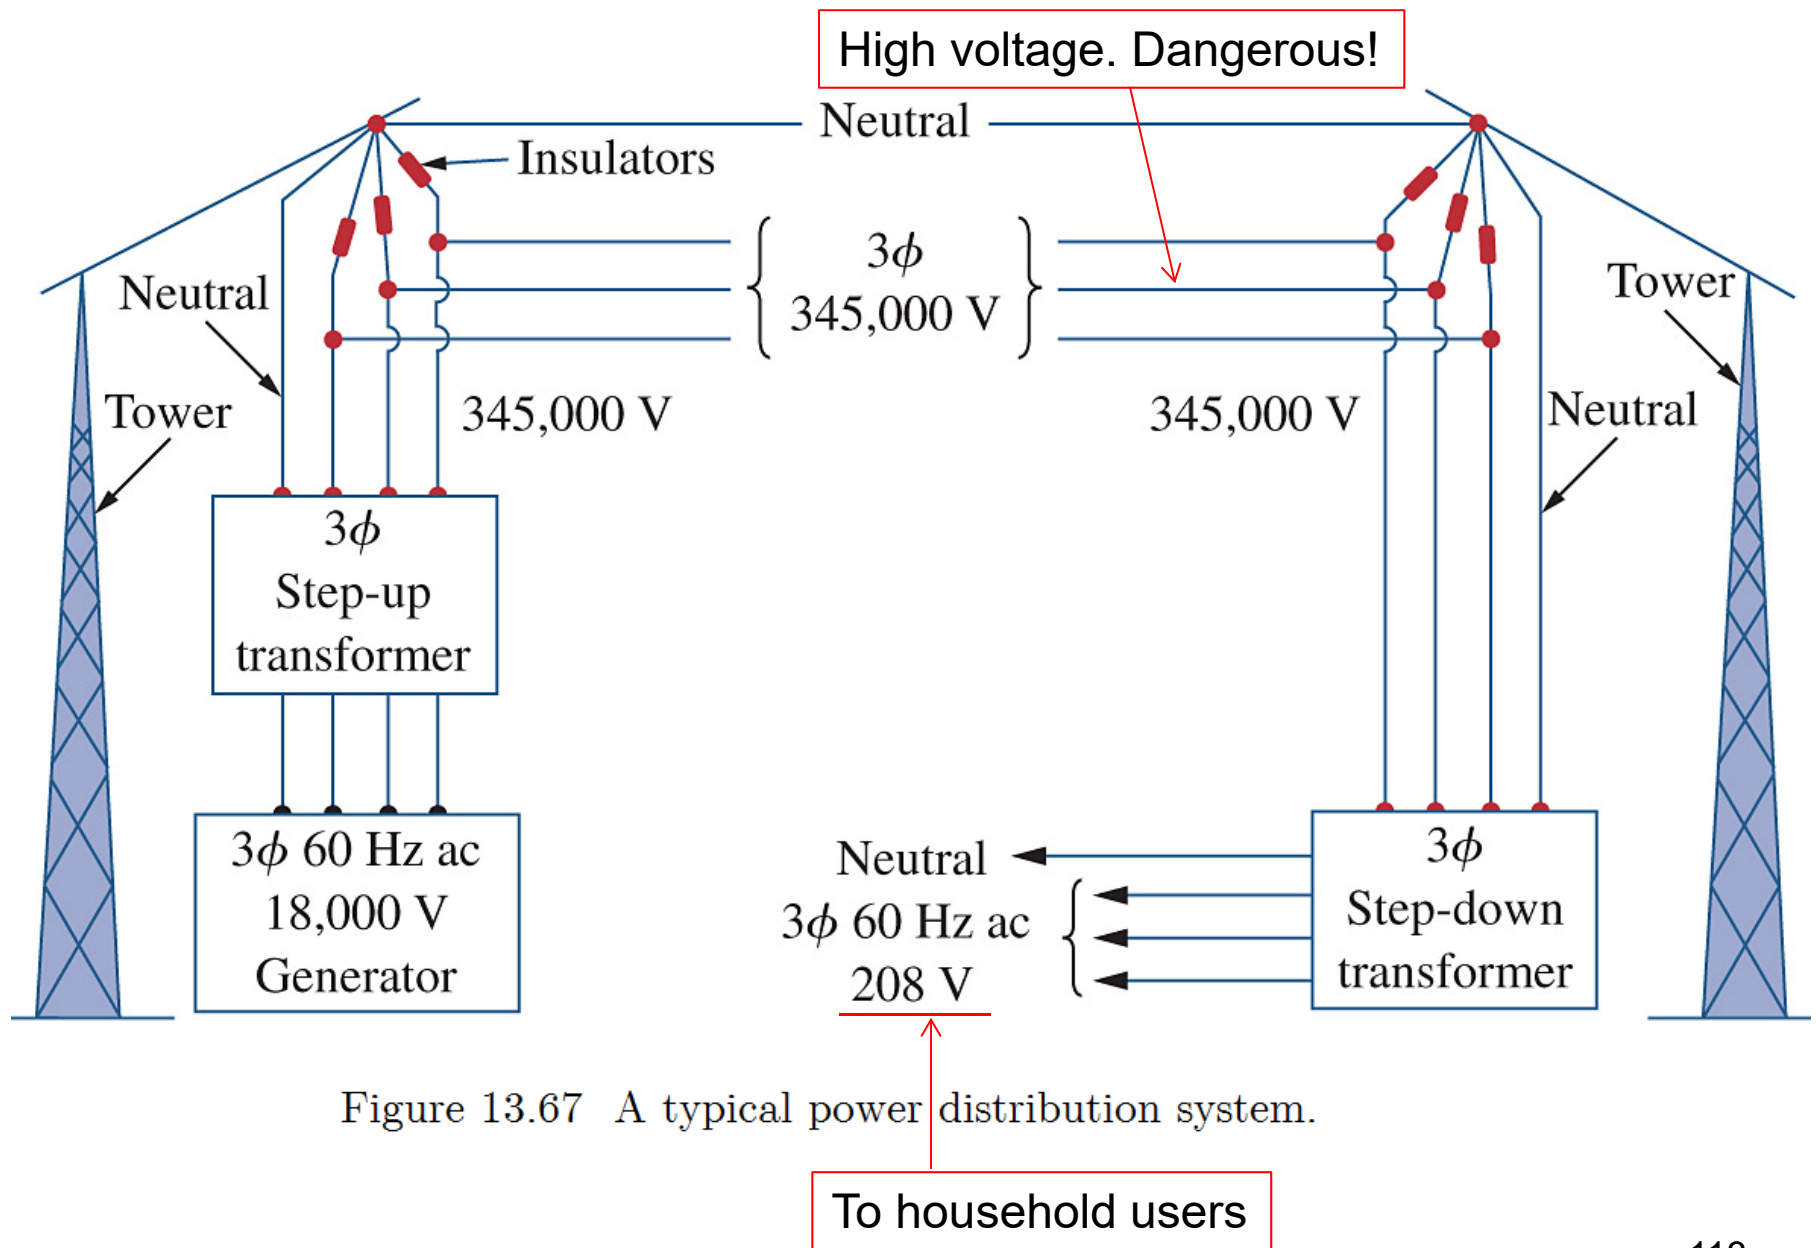

Figure 13.67 A typical power distribution system.
**Power Distribution** As shown in Fig. 13.67, a power system basically consists of three components: generation, transmission, and distribution. Transformers are used to step up and step down voltage and distribute power economically.